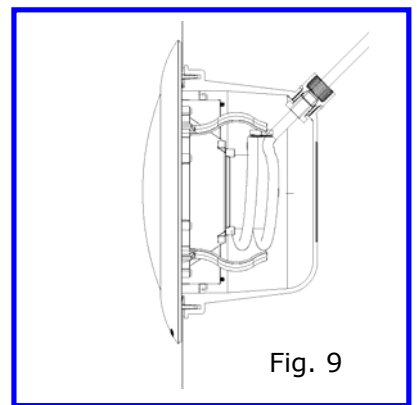

Fig. 9
- Wind the remaining cable around the plastic core of the optic and insert the optic in the niche by keeping cable outlet in the upper side (Fig. 9)